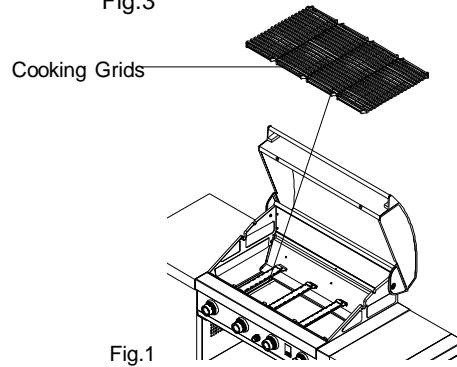

Fig.1
- Open the cap of the Battery Box and put 2 AA batteries inside. Make sure the "+" and "-" ends are placed correctly as shown. Close the cap and then Put the Battery Box into the Battery Box Bracket. (see Fig.1)
- Place Cooking Grids on bowl ledge. see Fig.1